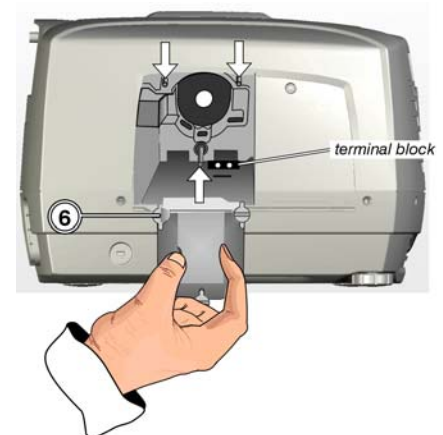

Figure 4.5.
7. On the new lamp module, turn the three lock screws to the “unlock” position before inserting it into the lamp compartment. Align the lamp with the three pins located at the back of the compartment. Insert the lamp all the way in until it is fully seated. (Figure 4.5)